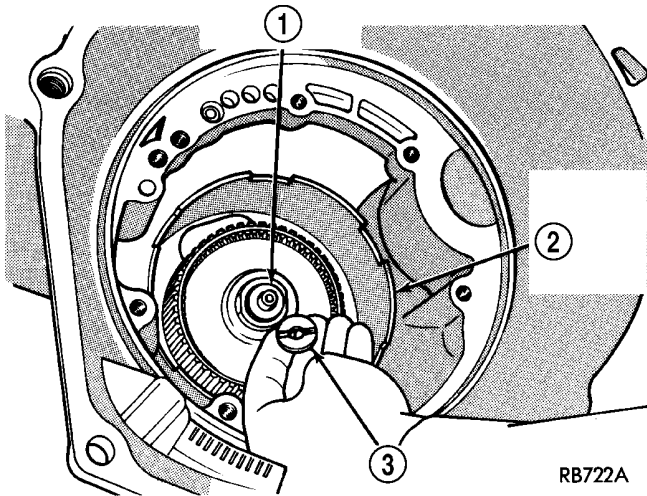

Fig. 33 No. 3 Thrust Washer
(33) Remove #3 thrust washer (Fig. 33).